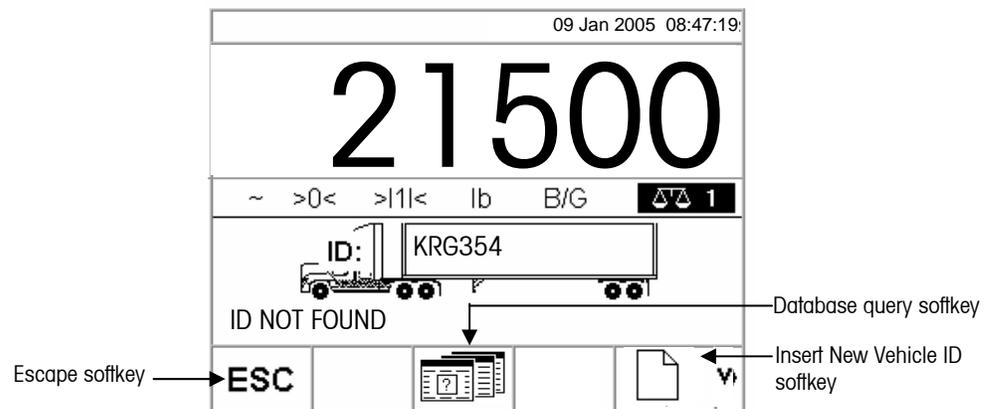

Figure 2-8: Default Weight Screen
If the vehicle's ID is not located, the display will read ID NOT FOUND (see Figure 2-8).
- **Escape**—Press the ESCAPE softkey (see Figure 2-8) to return to the main Default Weight Screen.
- **Search for the vehicle ID**—Press the DATABASE QUERY softkey (see Figure 2-8) to search for the vehicle ID. Once the correct ID is located, continue with the outbound process (see Outbound Process).
- **Insert New Vehicle ID**—Press the Insert New Vehicle ID softkey (see Figure 2-8) to store the ID in the temporary ID table (see Temporary ID Weighing).